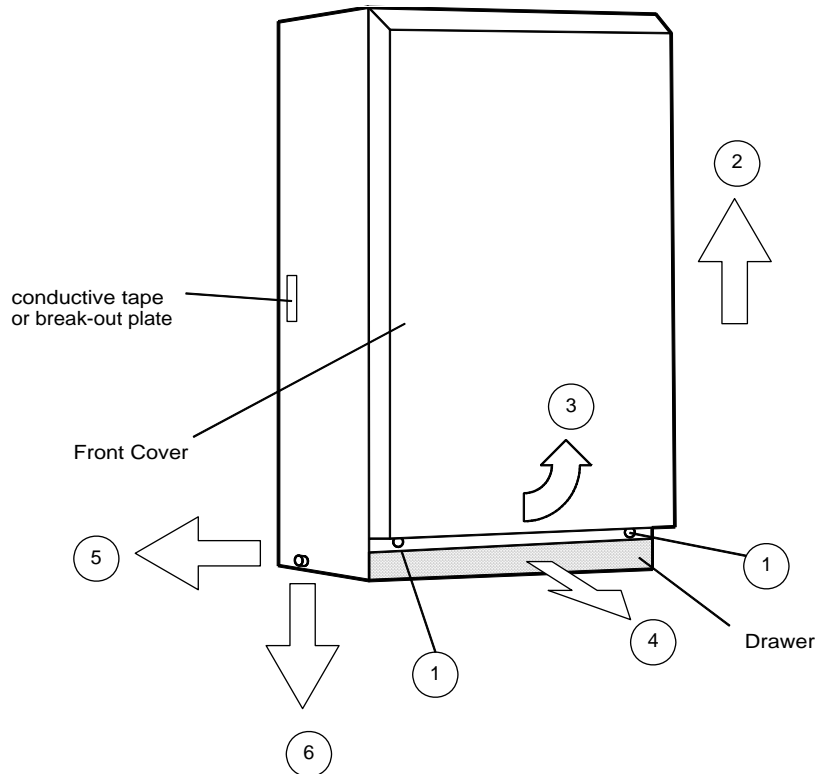

Fig. 4-4 Removal of the Front Cover and the Drawer
2. Remove the front cover of the cabinet (see Figure 4-4):
- Remove the screws that secure the cover (1).
- Lift the front cover approximately 3/8" (2).
- Remove the cover by lifting the lower edge towards you (3).
- Open the drawer by pulling it toward you (4).
- Release the drawer by pulling the left or right hand side of the drawer down as indicated in Figure 4-4 (5) and remove the drawer (6). The drawer is hinged by the two screws on its sides. These do not need to be removed to take the drawer out. Replace the two front cover screws so that they do not get lost.
1. Remove the cover of the cabinet (see Figure 4-4):
- Loosen the screws that secure the cover (1).
- Open the drawer by pulling it towards you (4).
- Release the drawer by pulling the lower side of the Modular Cabinet as indicated in Figure 4-4 (5) and remove the drawer (6). Replace the two front cover screws so that they do not get lost.